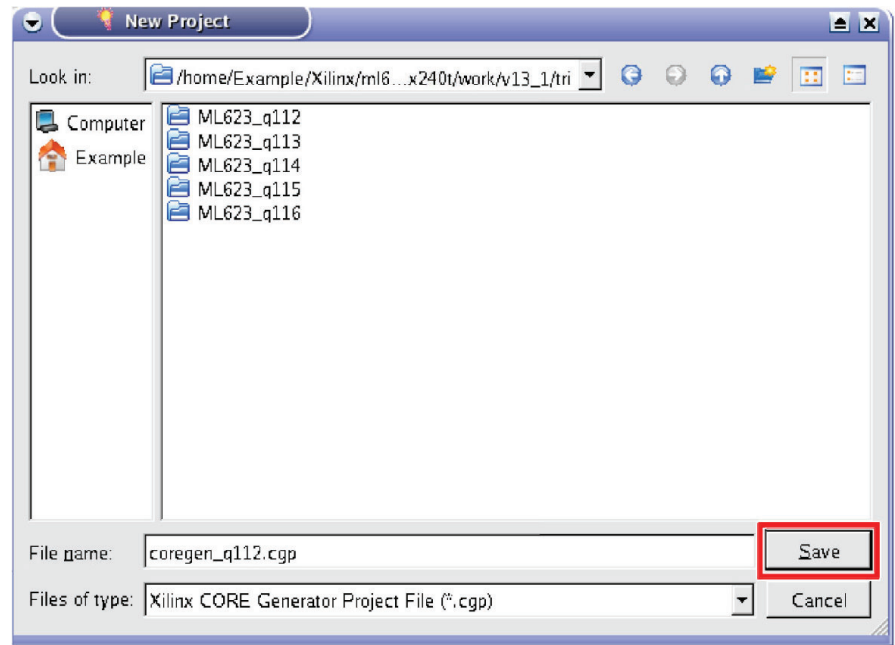

Figure 1-20: Save New Project
5. Name the project `coregen_q112.cgp` and click **Save** (Figure 1-20).